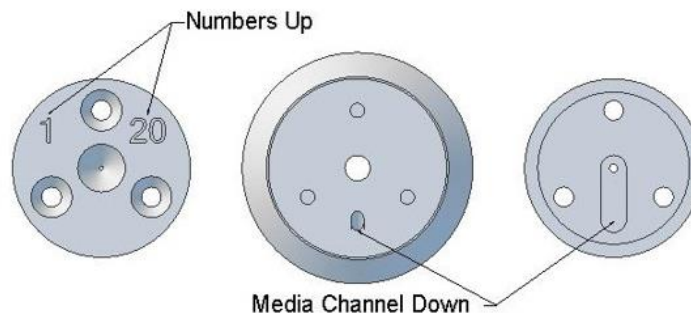

Figure 3. Positioning of the Expansion Plate on Nozzle Body
5. Select the appropriate expansion plate from the accessories kit and place it onto the O-ring so that the ID numbers etched on the face of the plate are opposite the liquid feed channel (Figure 3). This will confirm the liquid feed channels of the two parts are aligned.